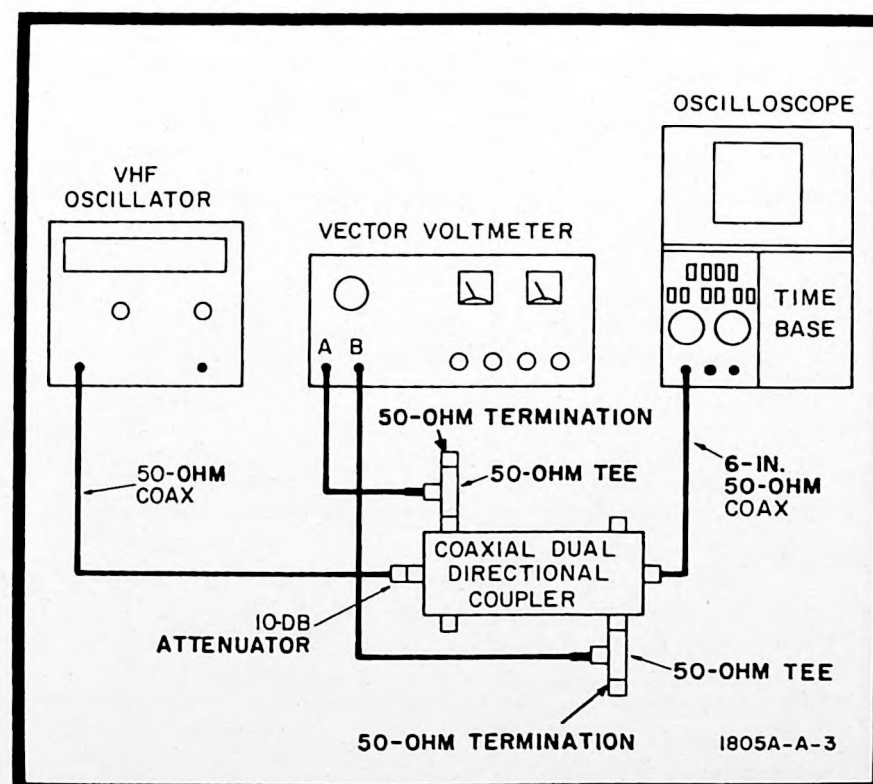

Figure 5-9. VSWR Test Setup
a. Connect equipment as shown in figure 5-9.